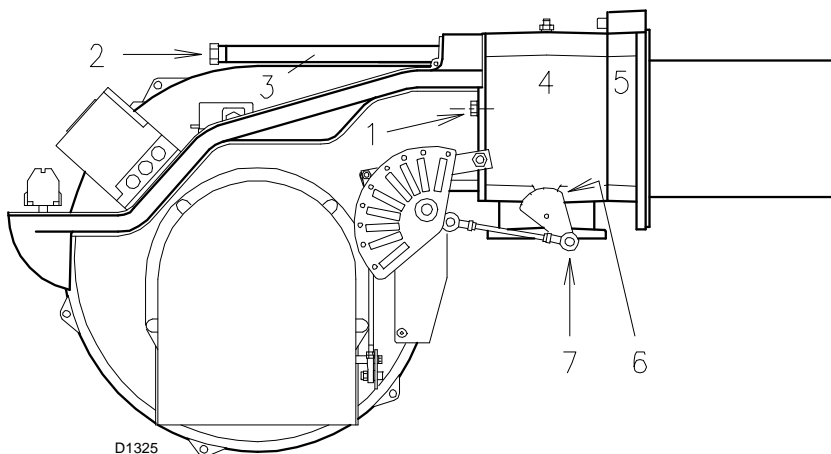

Fig. 16
- insert the probe and electrode cables, then slide the burner as far as the pipe coupling - burner in the position shown in Fig. 16;